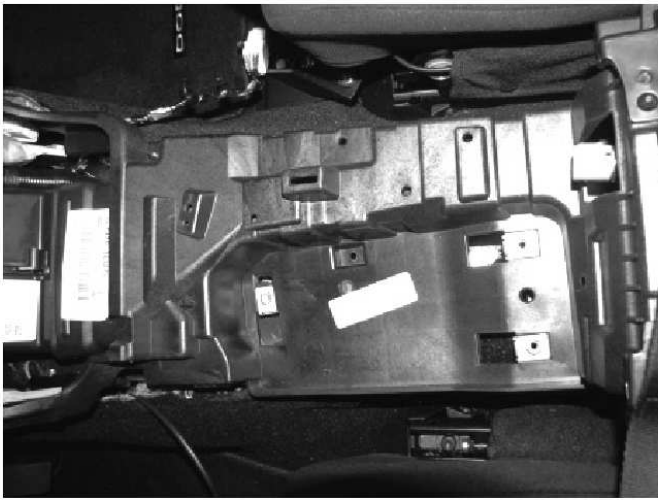

Fig 5 - Harness and Shifter Removed
9. Unplug the main harness from the 12v accessory jacks. Pull out Christmas tree fasteners so harness can be laid in passenger foot well (Fig 5).